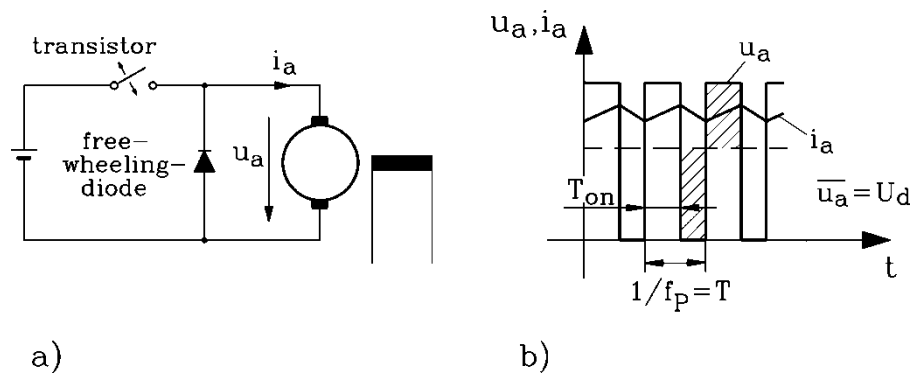

Fig. 6: 1-quadrant operation of DC-chopper: a) Basic circuit scheme, b) armature voltage pulse pattern
- 4) Due to the switching modulation as depicted in Fig. 6 b), the armature current $i_a(t) = I_a + \Delta i_a(t)$ comprises an average value $I_a = \bar{i}_a$ and a small ripple of $\Delta i_a(t)$. Calculate this ripple with following approximation for the operating point according to 3)!